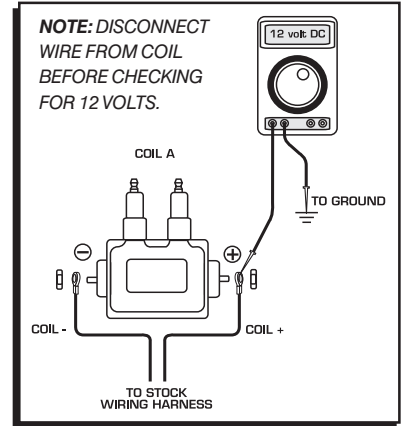

Figure 2 Checking for Coil Wire Polarity.
1. Locate the ignition coils and identify which side of the coil(s) has 12 volts going to it. If the polarity of the coil is not identified, follow this procedure (Figure 2):